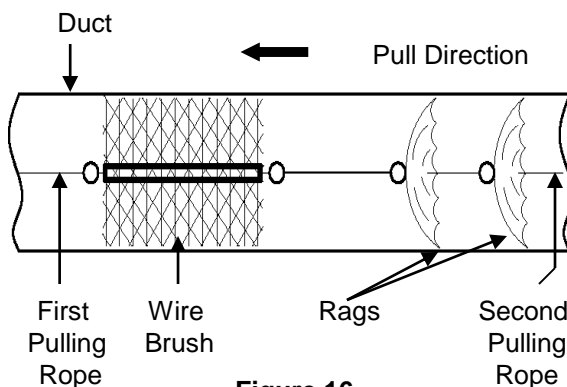

Figure 16
15.2.1 Attach a wire brush, rags and a second pulling rope to one end of previously installed pulling rope. Ensure cleaning apparatus and second pulling rope are securely attached to first pulling rope and won't come loose. **See Fig. 16.**